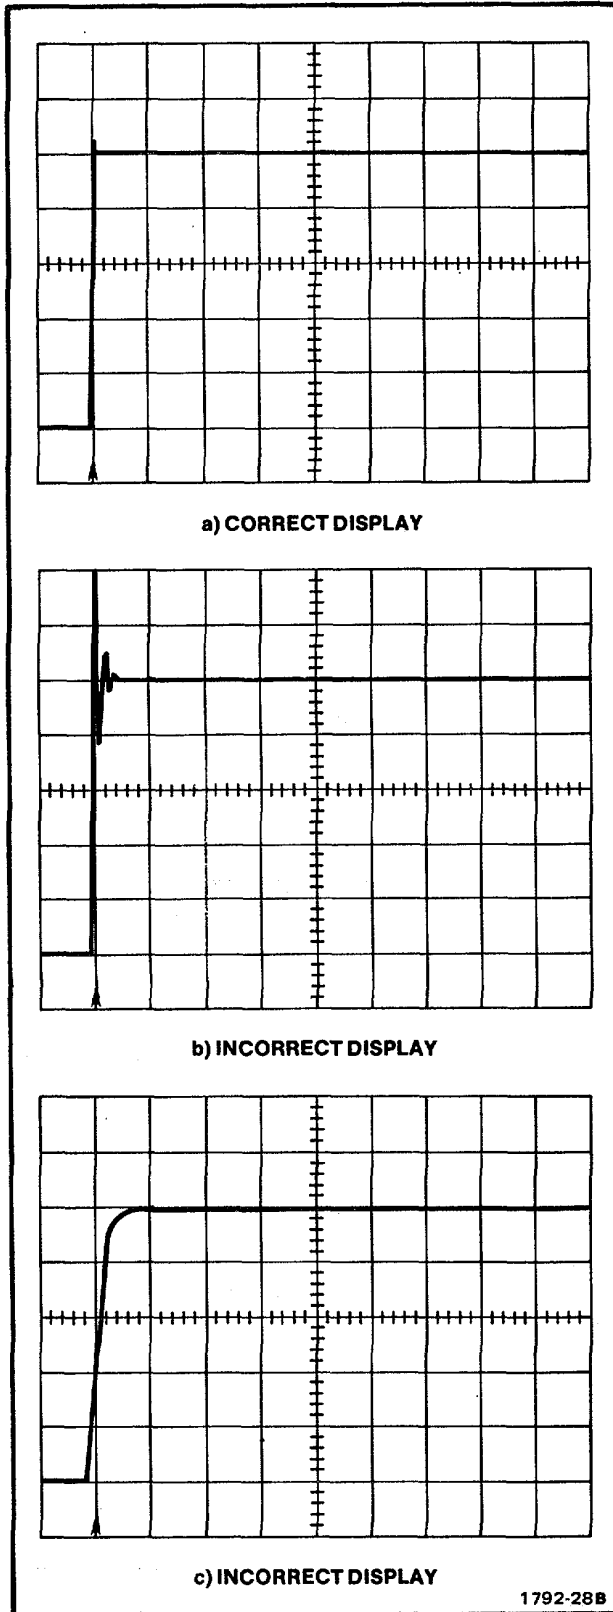

Figure 4-11. Loop Gain Adjustment.
(b). Check that the rise of the pulse occurs within 0.1 division horizontally and there is a spike of approximately 0.2 division at the top corner of the pulse. See Fig. 4-11 for correct and incorrect displays.
95. (a). Adjust-R1543 (LOOP GAIN) located on the MAIN board so that the pulse is as described in the previous step. See Fig. 4-11 for photos of correct and incorrect displays.